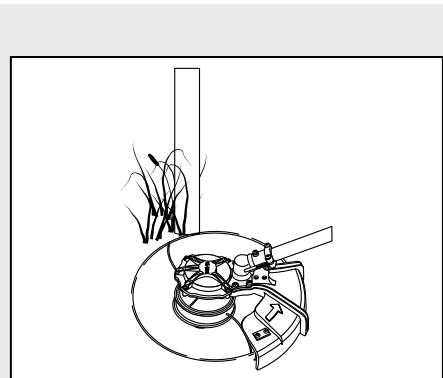

Fig. 12
**⚠ WARNING:** Be extremely careful when cutting around hard objects such as rock, gravel, fence posts etc. that can be contacted by the line or the bump head (Fig. 12). Contacting these items with the line or bump head may cause pieces of the trimmer line and debris to be violently thrown. It may also cause the line to become entangled and damage both the line and the bump head.